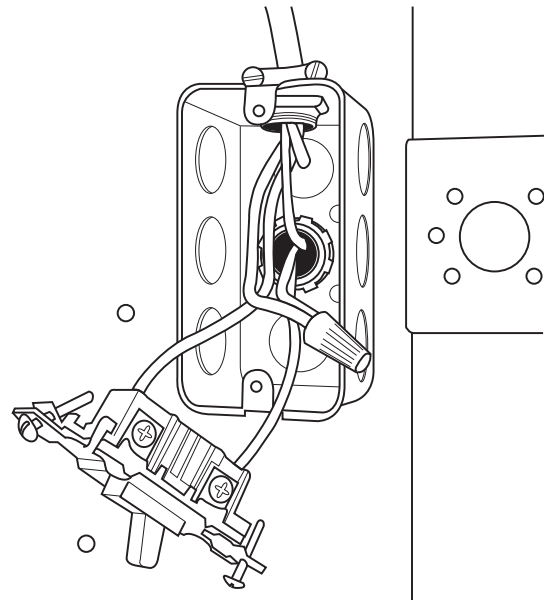

Fig. 24 – Field-Supplied Electrical Box on Furnace Casing
Field-Supplied Electrical Box on Furnace J-Box Bracket See Fig. 24.
6. Reinstall cover to J-Box. Do not pinch wires between cover and bracket. Electrical Box on Furnace Casing Side See Fig. 24.